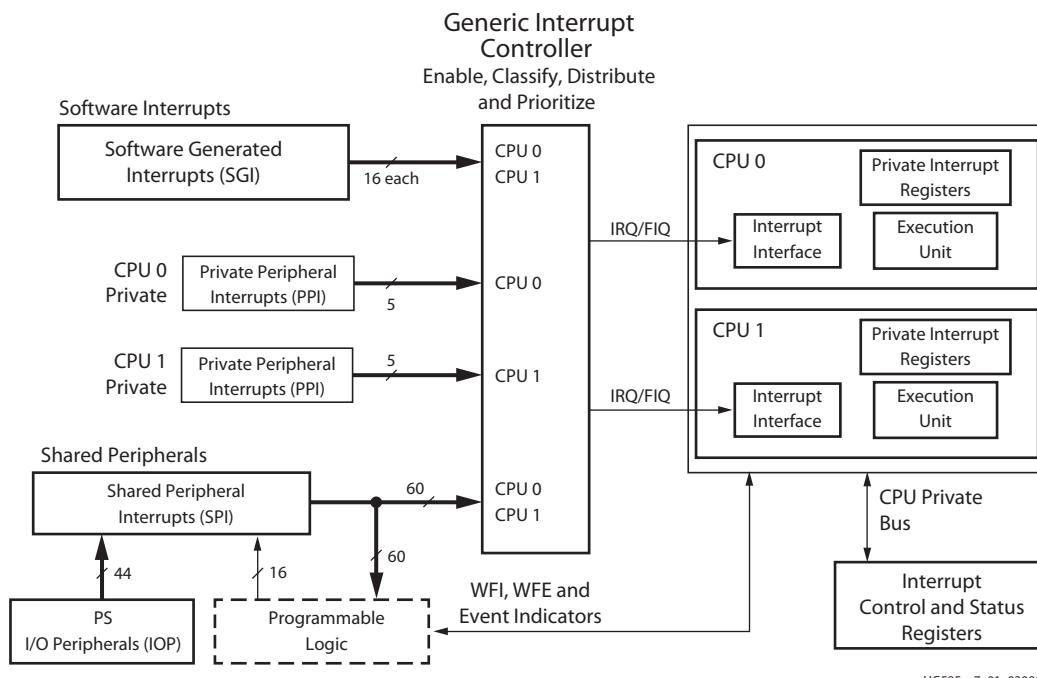

Figure 7-1: System-Level Block Diagram
This chapter describes the system-level interrupt environment and the functions of the interrupt controller (see Figure 7-1). The PS is based on ARM architecture, utilizing two Cortex-A9 processors (CPUs) and the GIC pI390 interrupt controller. The interrupt structure is closely associated with the CPUs and accepts interrupts from the I/O peripherals (IOP) and the programmable logic (PL). This chapter includes these key topics: